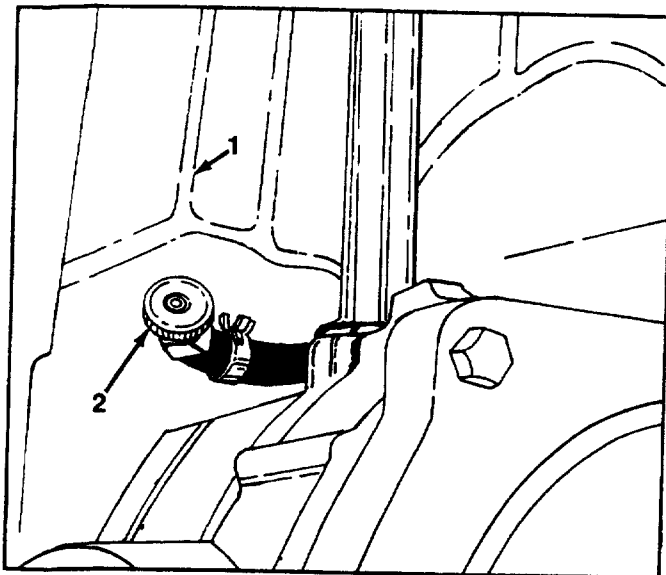

FIGURE 1.
2. Close the shut-off valve at the fuel tank, located at the rear of tractor; turn counterclockwise. See figure 1.